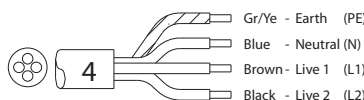

Fig. 8
- (fig. 8) 2 N~ 400V (4 core cable)